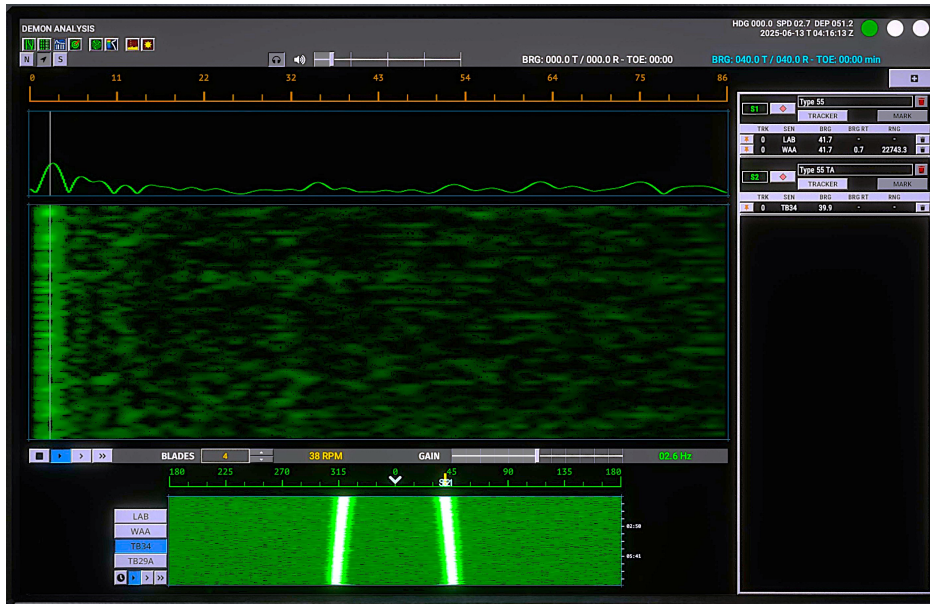

Figure 18: DEMON Display
DEMON can provide information about the shaft rate (SR) and the blade count (BC). Sometimes it is possible to identify the number of propeller shafts (Figure 18 Page 36). Our system shows a strong tonal at 2.2 Hz (Note in the picture the cursor is offset) which is hypothesised to be the shaft fundamental.